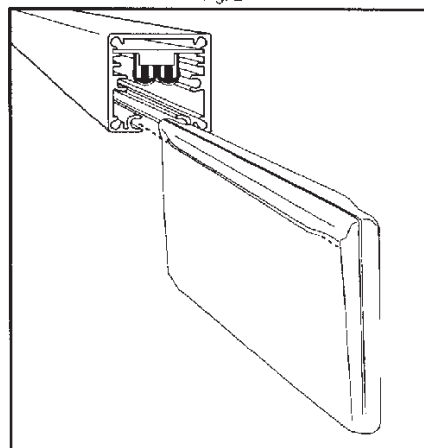

Fig. 3
Step 4. Remove lens from foam envelope and slide into extrusion. (See Fig. 3). Be sure to note arrow orientation as required.